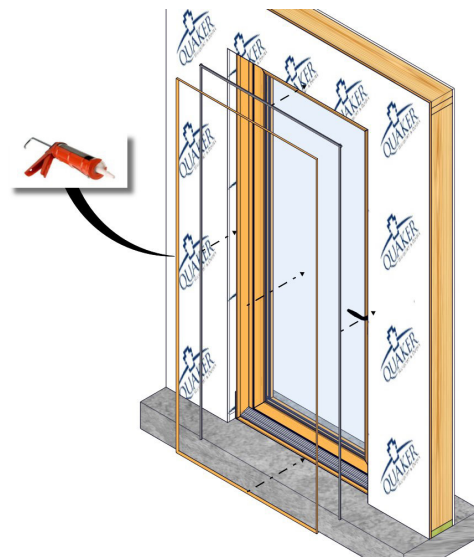

Fig. 9
3. Apply backer rod as needed and a continuous bead of sealant around the entire perimeter of the door unit. (Fig. 9)